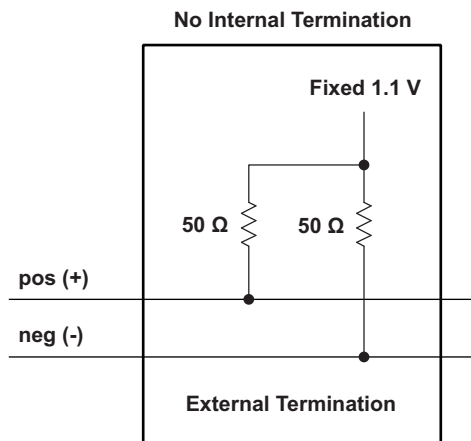

Figure 28. External Terminations: Receiver Has No Internal Terminations
- If the LVDS receiver includes neither the 100 Ω s or biasing, use the external terminations shown in Figure 28.